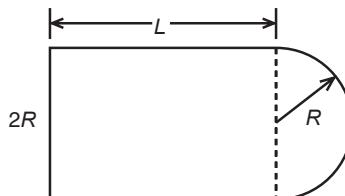

Figure P20
20. A fenced enclosure consists of a rectangle of length L and width $2R$, and a semicircle of radius R , as shown in Figure P20. The enclosure is to be built to have an area A of 1600 ft^2 . The cost of the fence is \$40/ft for the curved portion and \$30/ft for the straight sides. Use the `min` function to determine with a resolution of 0.01 ft the values of R and L required to minimize the total cost of the fence. Also compute the minimum cost.